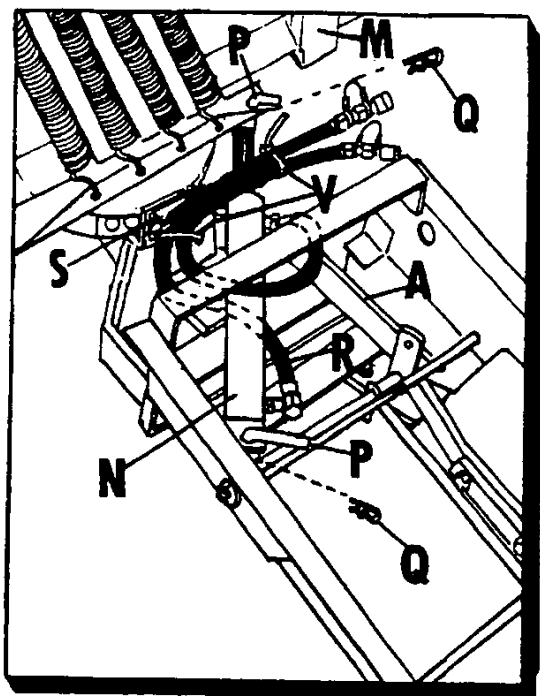

Fig. 22
2. Assy. hydraulic cylinder (N) to dozer blade (M) with two pins (P) and two hair pins (Q). (See Fig. 22)
3. Assy. hydraulic hoses to cylinder (N), long hose (R) to rear of cylinder, short hose (T) to front of cylinder.